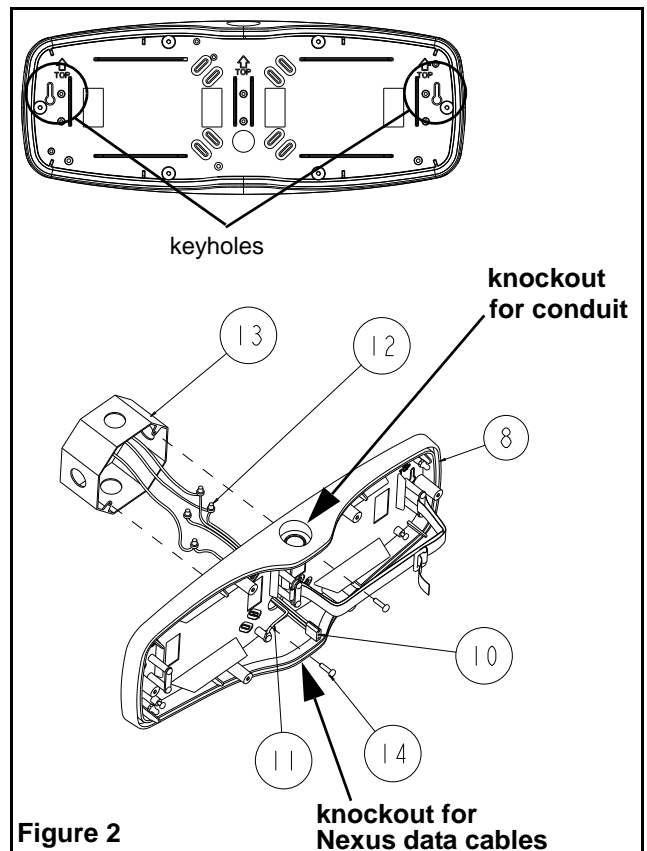

Figure 2
Wall mounting on a junction (figure 2)
- Remove AC harness from electronic module. Wire to AC circuit wires using wire nuts (see figure 2). Refer to hookup instructions on page 2.
- Install the gasket on the back plate. Feed AC harness and the ground through the large hole in the backplate (see figure 2). Mount to J-box using the J-box screws (not provided). J-box should be properly secured directly to a stud.